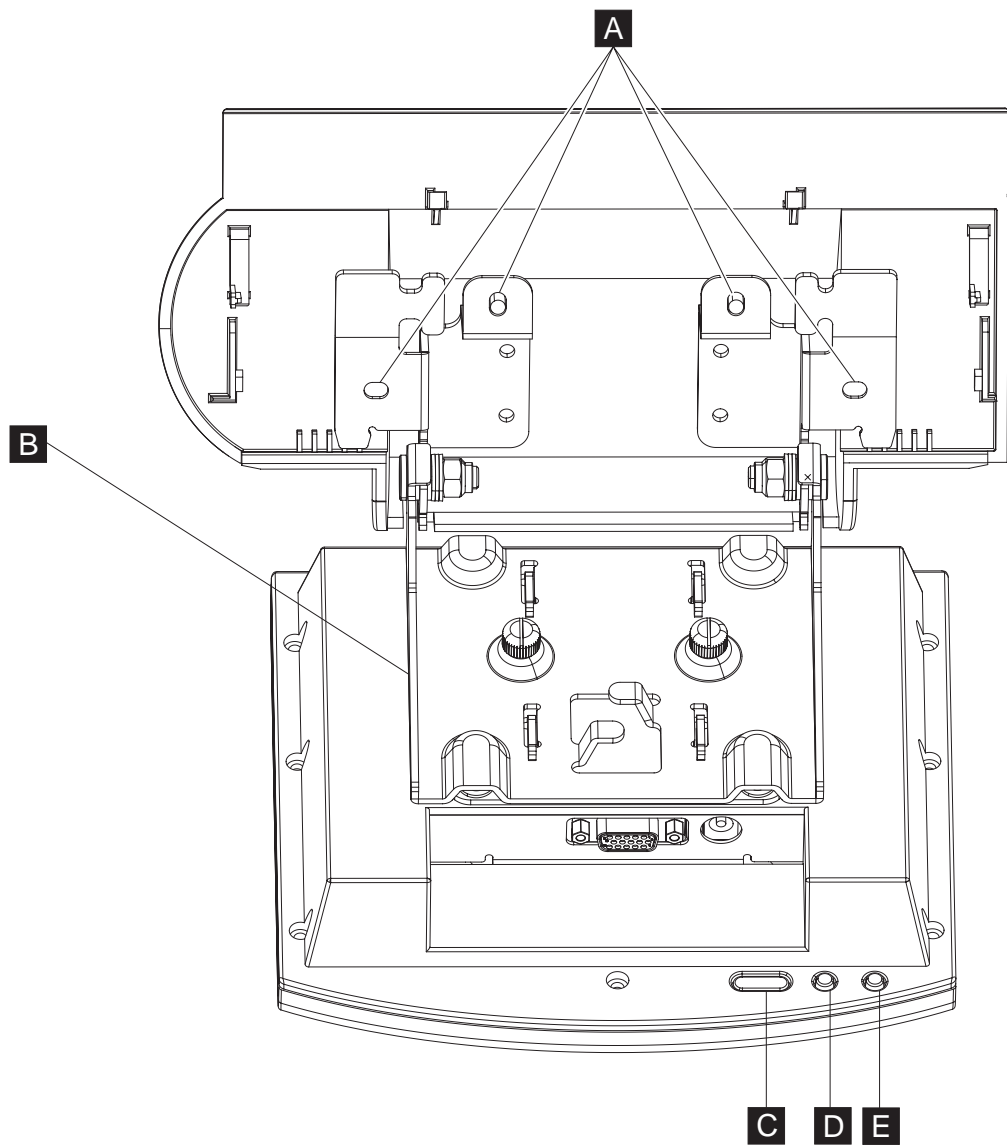
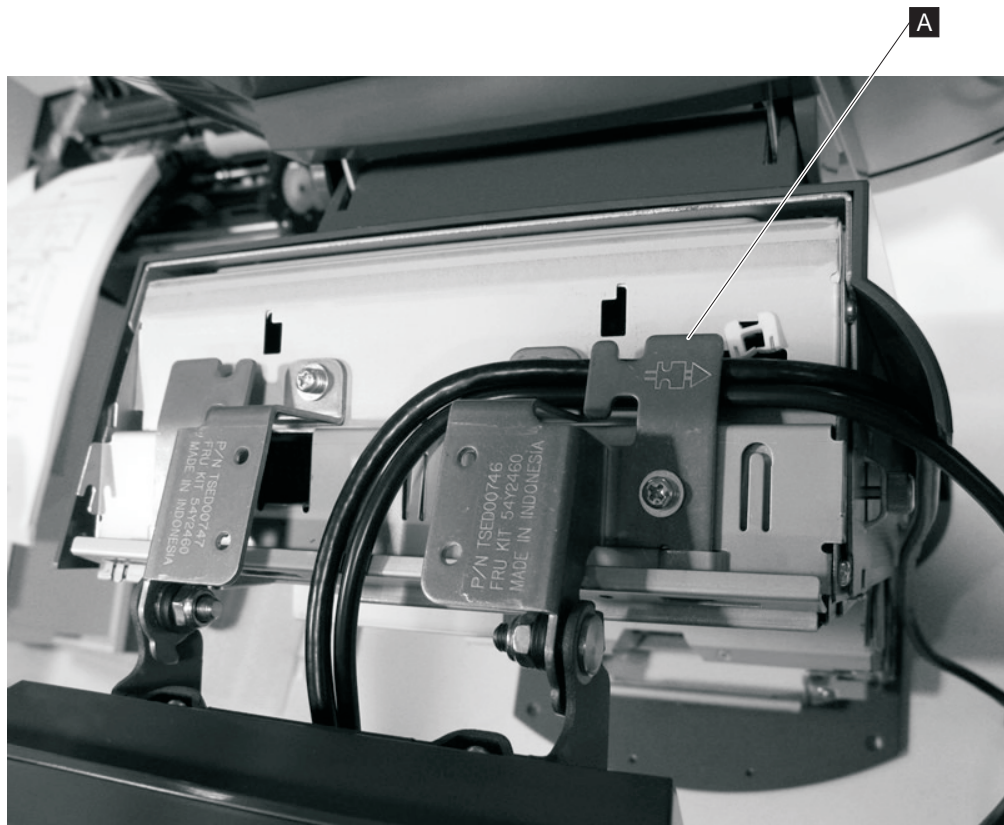

Figure 47. 6.5 bracket
Figure 49. 6.5 cable hook
5. Install 6.5 display bracket on the rear of the 6.5 display. **B** in Figure 47 on page 78.
7. Mount the 6.5 display bracket to the top of unit with the four screws provided. **A** in Figure 47 on page 78 illustrates the four holes to use. Be sure to position the cables under the hook as illustrated in Figure 49.